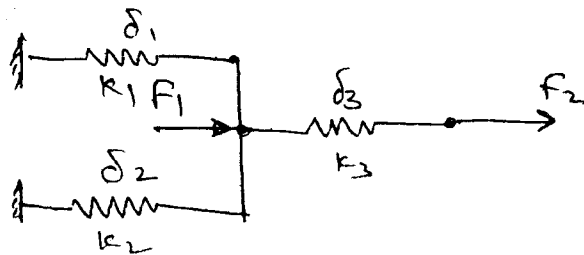

Fig. Q2(c)
- c. Determine the displacement at nodes of spring system shown Fig. Q2(c) using principle of minimum potential energy, (05 Marks)